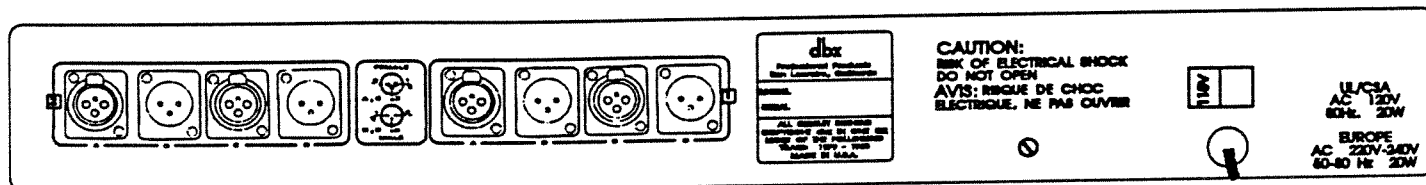

Figure 1: FS900 Rear Panel
- A. Locate the voltage selector switch on the rear panel. See Figure 1.
The FS900 has two available module bays, labeled CH 1 and CH 2. Each module bay is connected to XL-type connectors located on the rear of the FS900 (Figure 1) according to Table 2. Pin 1 is circuit ground, pin 2 is the cold (-) lead and pin 3 is the hot (+) lead.